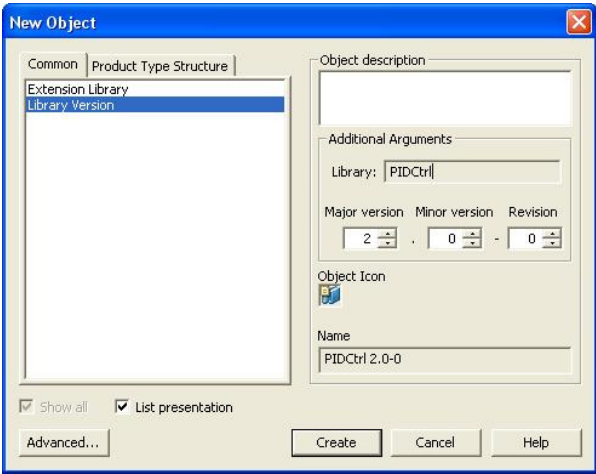

Figure 349. Creating New Major Version - New Object Dialog Box
- Right-click the Library object and select **New Object**. Select **Library Version**. Enter or accept the proposed version designation for the predetermined Library, see Figure 349. Click **Create**. All objects from the previous library version are automatically copied to the new version.